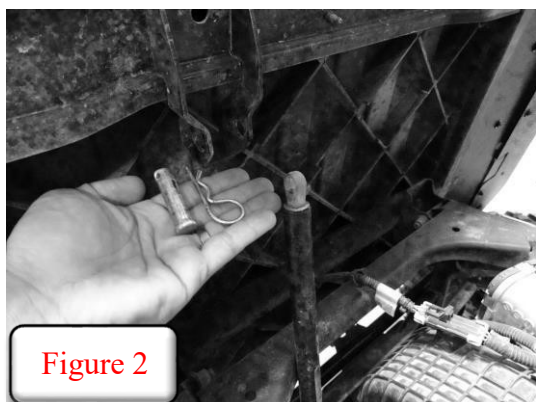

Figure 2
1. Place the dump bed into the vertical position. Remove the pin and bushing from the gas strut as shown in Figure 2 to gain more access to the area.